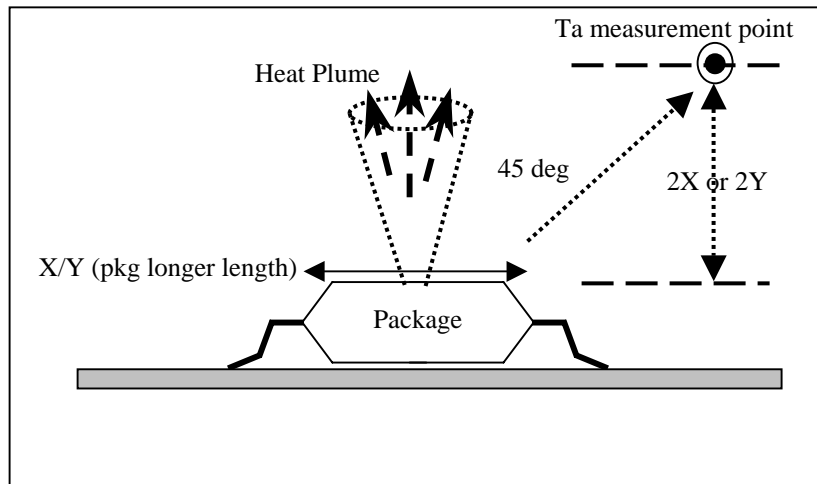

Fig. 8, Measurement of ambient temperature
- Position the thermocouple approximately 45 degrees from package edge and above the package surface around 2x package length (either X or Y whichever is longer). Refer to fig. 8 below.